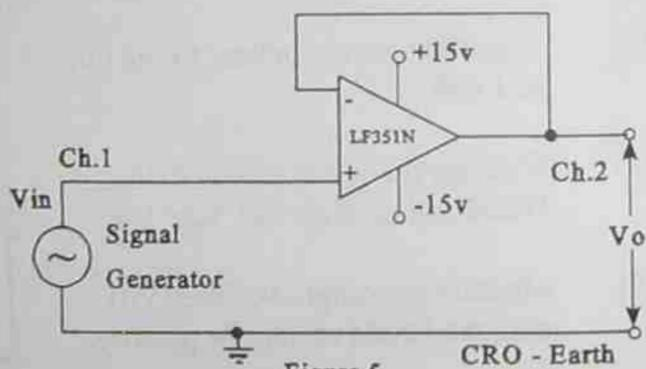

Figure 5
- (a) Connect up the circuit as shown in Figure 5.